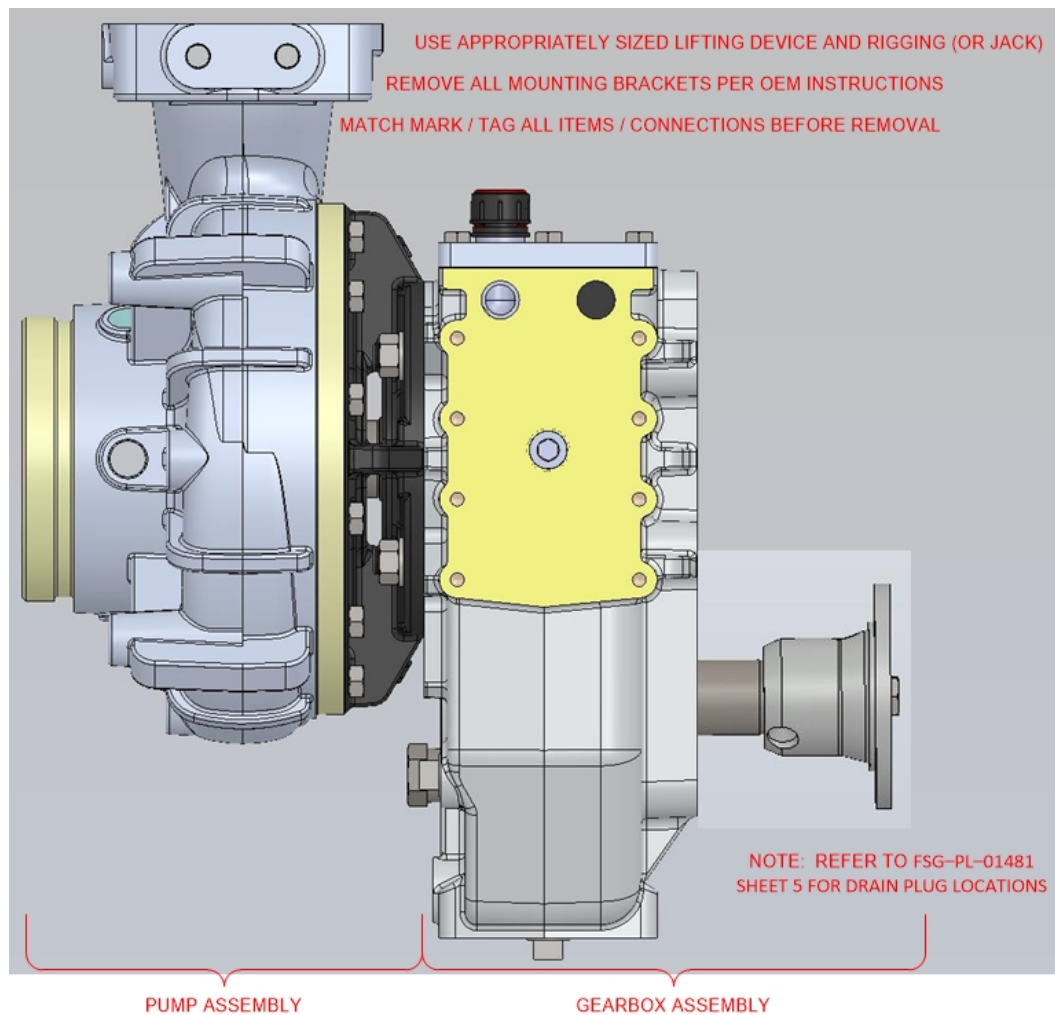

Figure 18. Pump And Gearbox Assembly R&R
3. Remove magnetic oil drain plug. (See Figure 18.)
- D. Remove pump and gearbox from apparatus. See Figure 18.